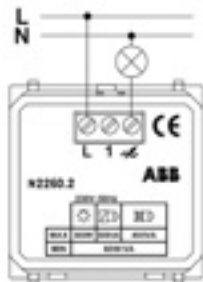
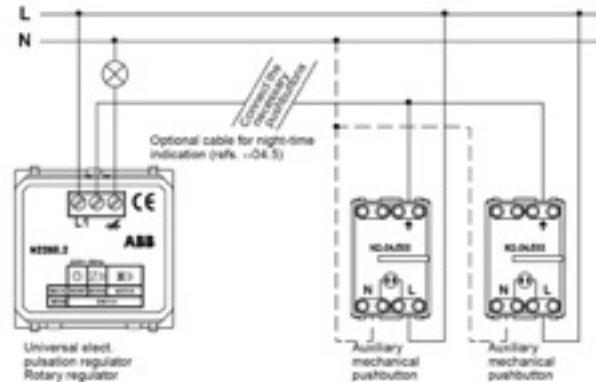

Figure 1:
Figure 2: Special wiring diagram
The electrical wiring for these devices is performed according to the wiring diagram shown in Figure 1.
The terminal indicated with represents the conductor wiring terminal returning from the load, which is also connected to the neutral conductor of the installation. See Figure 1.
The terminal marked "1" is used to exercise control from several points by means of conventional pushbuttons. See Figure 2.
If the device is installed individually, follow the instructions indicated in Figure 1.
The outputs of these pushbuttons are connected to terminal "1". See Figure 2.
1. Connect the device based on the corresponding wiring scheme. Figure 1 and Figure 2.